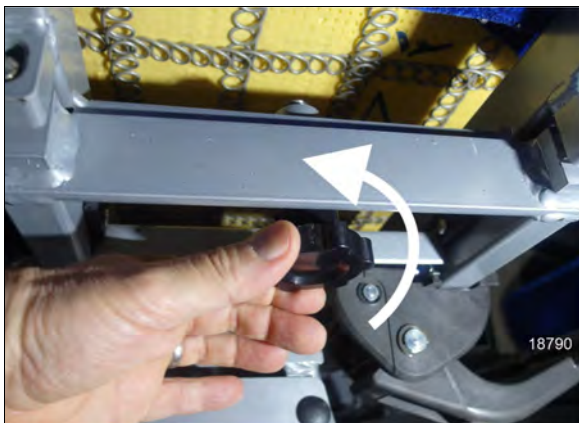

FIGURE 87: LOOSEN THE KNOB
1. Loosen completely the threaded-stud knob under the seat on the aisle side (Figure 87).